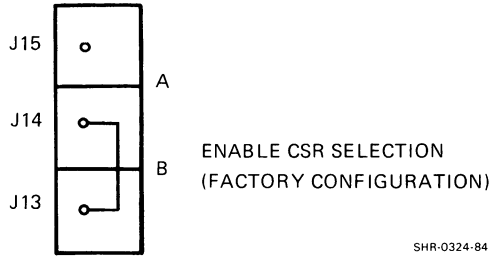

Figure 2-4 Enable/Disable CSR Selection
2.2.3 Enable/Disable CSR Selection Jumper (Figure 2-4)